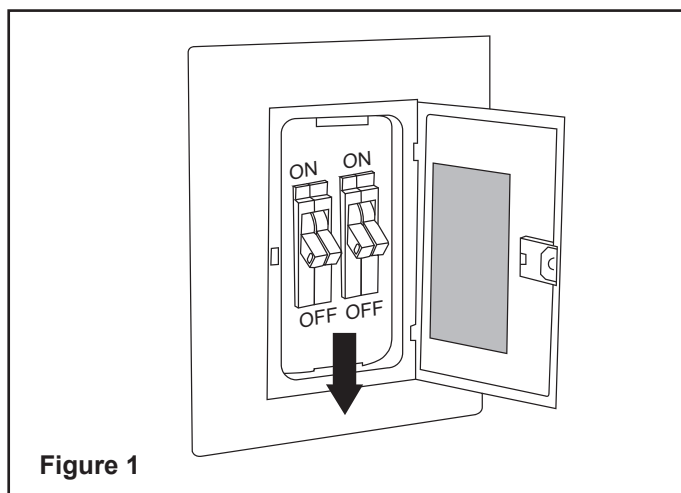

Figure 1
- ☐ 1. Turn off circuit breakers and wall switch to the fan supply line leads. (Figure 1)
Attach the mounting plate (A) to the outlet box (not included) with two screws and washers provided with the outlet box. Ensure the mounting plate (A) is tight and secured. (Figure 1)
**NOTE:** It is very important you use the proper hardware when installing the mounting plate (A) as this will support the fan.